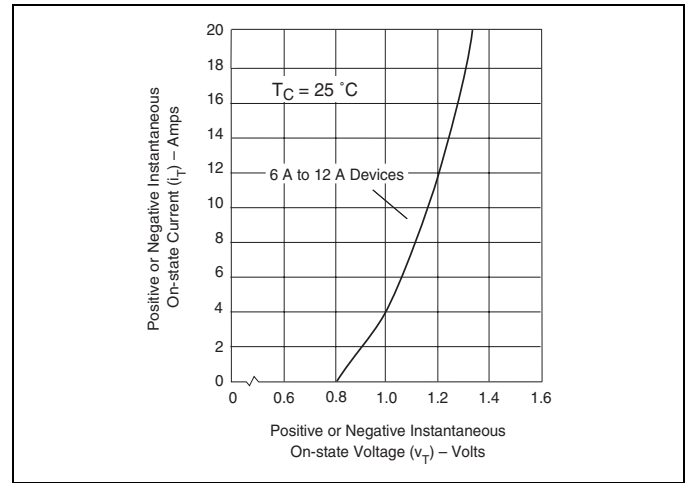
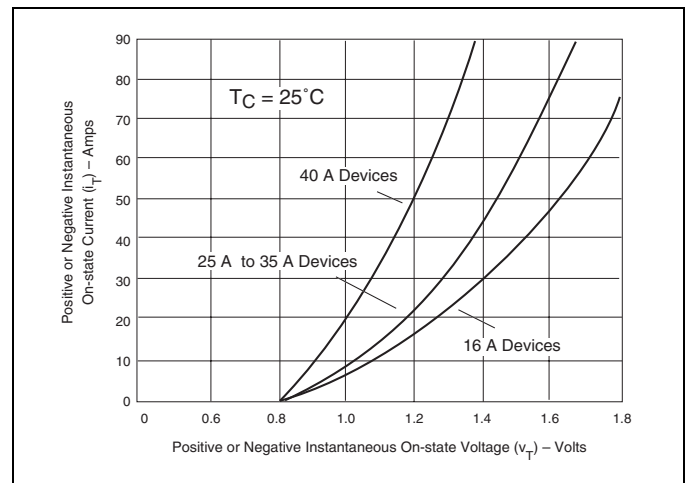

Figure E4.5 On-state Current versus On-state Voltage (Typical) (6 A to 12 A)
Figure E4.6 On-state Current versus On-state Voltage (Typical) (16 A to 40 A)
- See Figure E4.5 and Figure E4.6 for I_T and V_T.